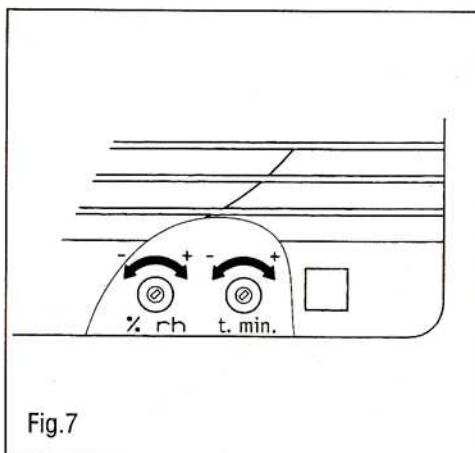

Fig. 7
To adjust the timer, turn the rotary switch on the Printed Circuit Board (Fig. 7).
The desired humidity level is selected by means of a potentiometer «% Hr» positioned on the printed circuit board (Fig. 7) and accessible once the grille (1) has been removed.
To set the timer, turn the potentiometer «t min.» on the printed circuit board (Fig. 7):